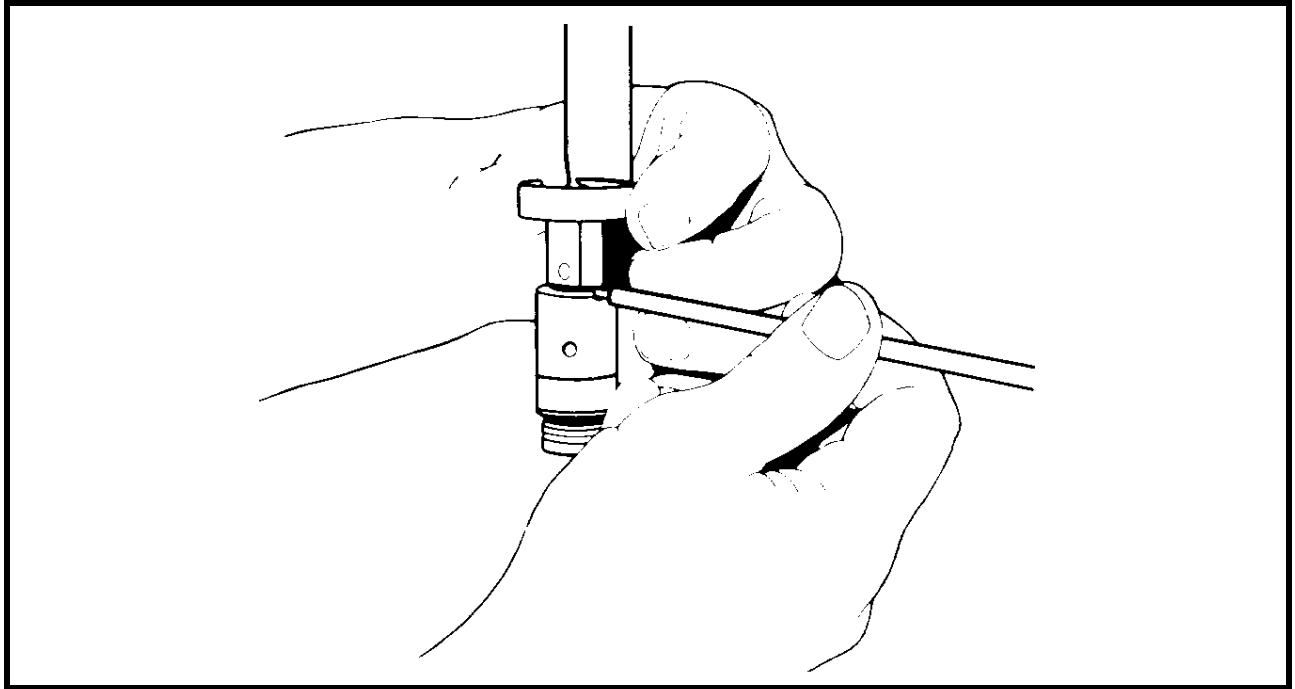

Figure 2-16 Gas Regulator Removal
- (1) Position the gas regulator between NORMAL and ADVERSE.
- (2) Place the tip of the return spring rod in the notch in the top of the gas block (NORMAL position of the lever) and turn the regulator beyond NORMAL under control until the gas regulator lever can be removed from the gas block.
- (3) Withdraw the gas plug from the gas block (see Figure 2-16).